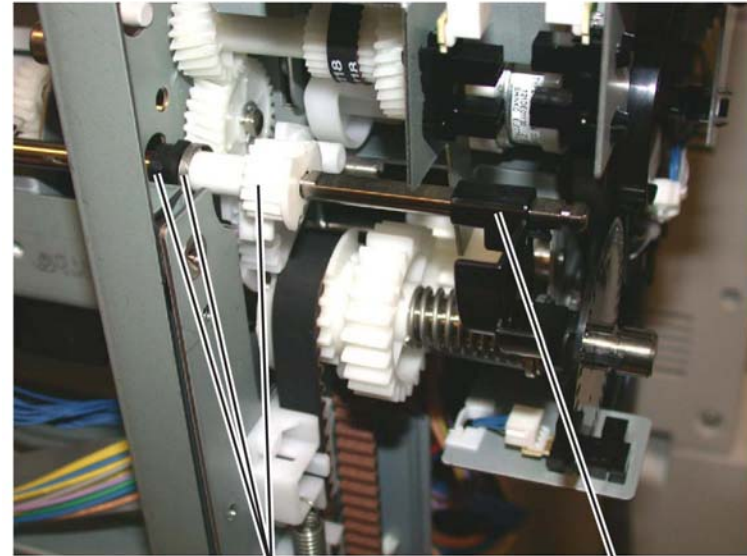

Figure 8 Flag removal
15. Slide the gear, spring and the bushing away from the frame, Figure 8:
- a. Unlock, then remove the flag (1).
- b. Slide the gear, spring and the bushing (2) away from the frame.